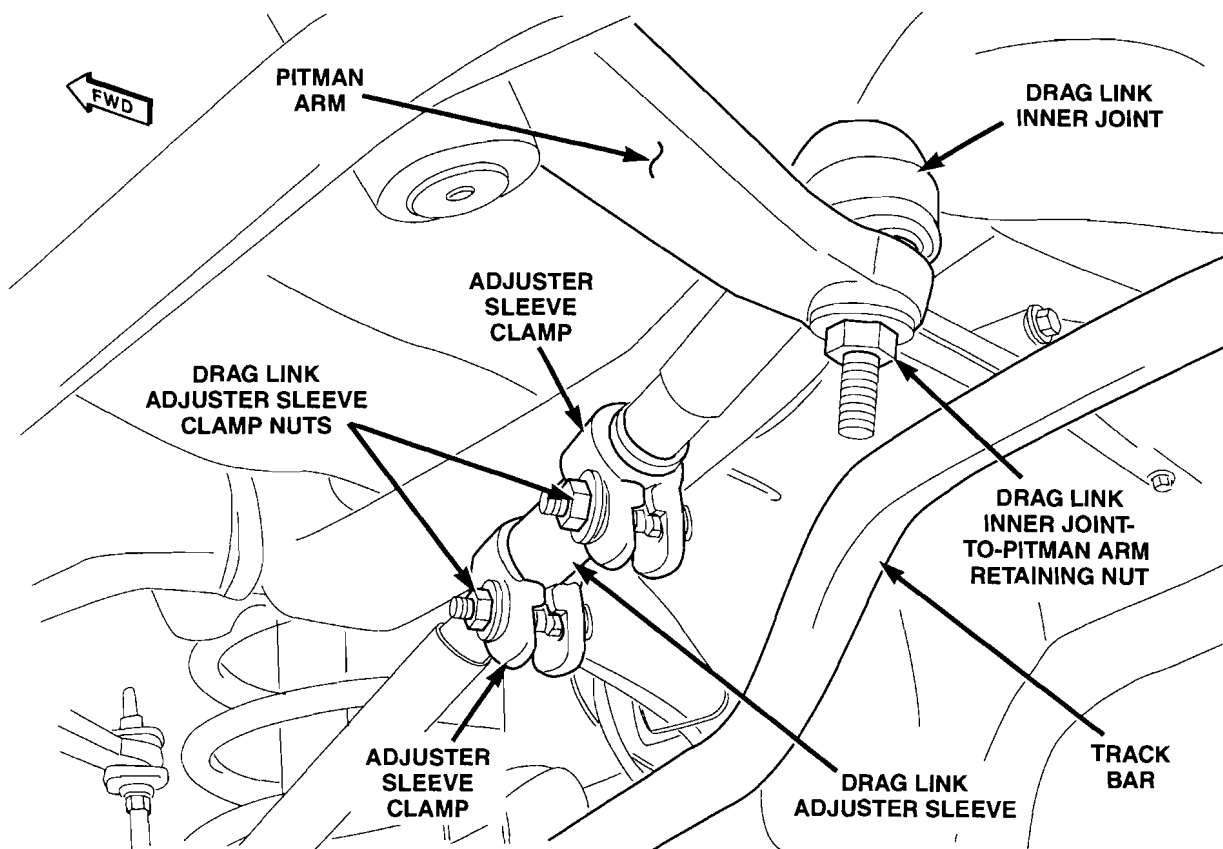

Figure 3
- a. Loosen both drag link adjuster sleeve clamp nuts (Figure 3).
- b. Remove and discard the drag link inner joint-to-pitman arm retaining nut (Figure 3).
CAUTION: The drag link adjuster sleeve clamp tabs must be pointing downward before tightening (as shown in Figure 3).